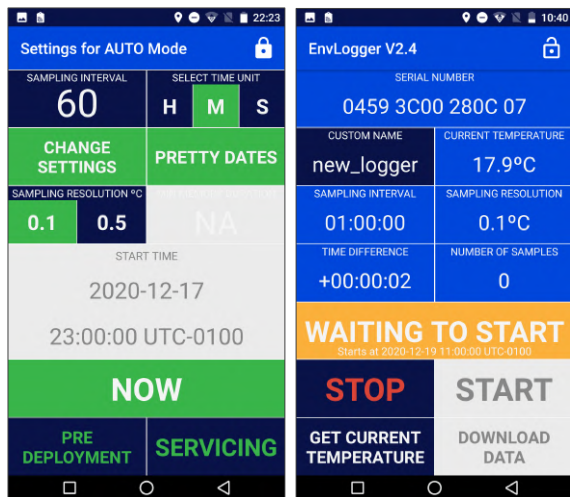
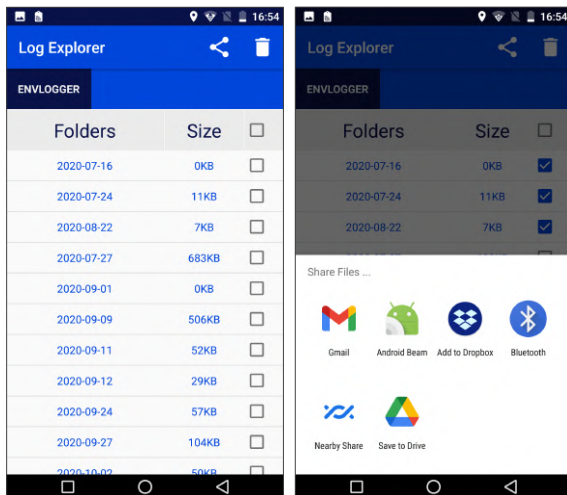

Figure 6. Start mission and waiting to start screens.
Figure 14. Log explorer (left) and share menu (right) screens.
To start a mission, press “START”. This will bring up a new screen (Fig. 6 left). From here you can choose a sampling resolution (0.1 °C or 0.5 °C), and the sampling interval in hours (H), minutes (M) or seconds (S). For EnvLoggers v2.4, the minimum value is 10 seconds. For v5.0, the minimum value is 2 minutes.
Press OK. A confirmation message will show up on the screen. If the logger was programmed to start later, you will see “WAITING TO START” highlighted in yellow in the main screen (Fig. 6, right). There is also an indication of when the first sample will be taken.
From the download data screen, there are four possible actions: 1. you can “STOP” the logger. You can do this safely now because data has already been automatically saved. Stopping the logger will set it to low-power mode. 2. you can restart the logger, launching a new mission by pressing “START”. This will bring you back to the start mission screen (Fig. 6 left side). The logger can be re-started an indefinite number of times, providing that the battery has power. 3. You can “CANCEL” looking at the data. This will return you to the mission running screen (Fig. 7 left). You should use this option whenever you are just checking loggers and want to download and backup data but for some reason do not want to stop the current mission and start a new one. Note that pressing the back button on your smartphone will have the same result and will return the app to the main screen. Also note that if you do not restart the mission the memory will not be “cleaned”, and thus you will not gain additional deployment time. 4. Finally, you can also tap the button “SHARE”. This will open the system sharing options (see Fig. 14 below) and will allow you to send the data by email, for example, providing that the smartphone is connected to a data network or to Wi-Fi.
The app allows you to manage the collected data after servicing EnvLoggers. To do that, open the app without connecting to any logger. From the main screen, touch the folder icon in the top right corner of the screen. That will open a data browser called “Log Explorer” (Fig. 14 left). There you will see the root folder called
“ENVLOGGER”. Inside, the log files will be organized in folders, grouped by day. You can select entire folders to delete or share or tap them to see the individual log files inside, which can also be deleted or shared using the system sharing options (Fig. 14 right).